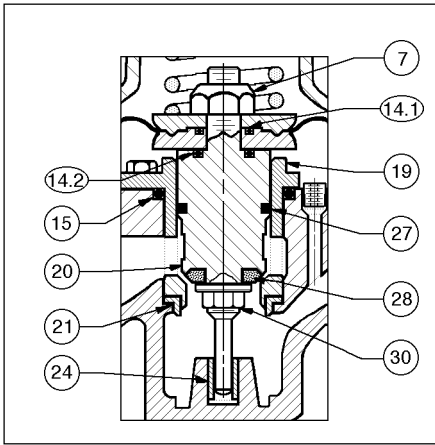

Figure 2: Body Sizes
1. *Body Sizes 1/2" – 2".* (See Figures 2 thru 5):
- b. Place plug (20) into a vise using the bars of a. above positioned on "flats" located on plug (20) to prevent vise jaw marks from direct surface contact with the plug (20). Orient with diaphragms on top side.
- c. *Sizes 1/2"-1".* Remove diaphragm locknut (7) by rotating CCW.